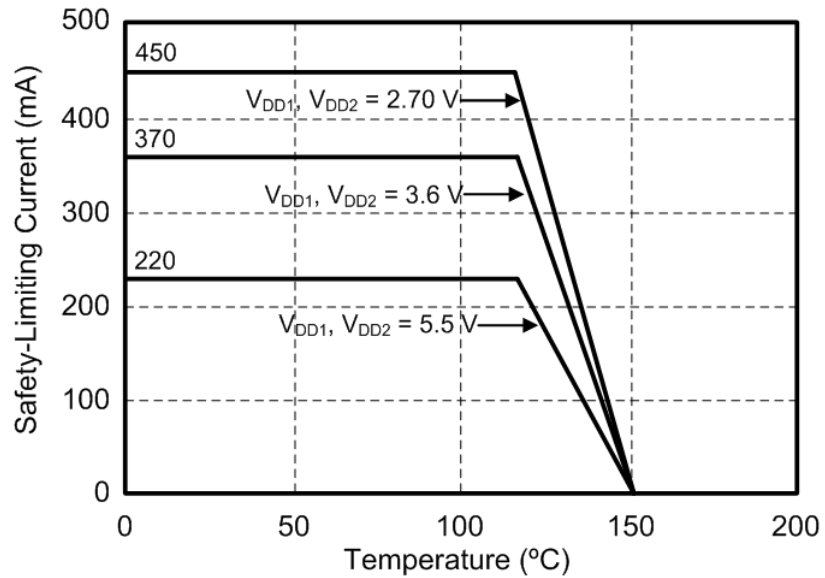
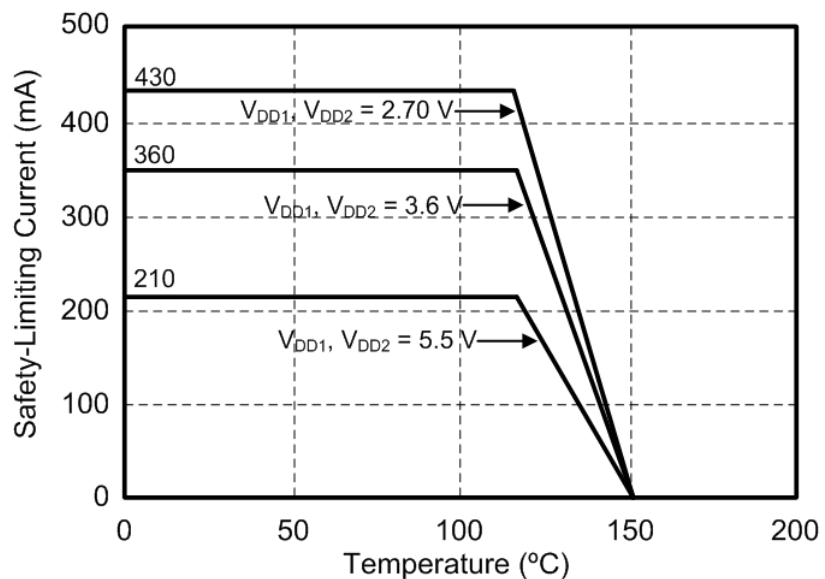

Figure 4.4. (WB SOIC-16) Thermal Derating Curve, Dependence of Safety Limiting Values with Case Temperature per DIN EN 60747-5-5/VDE 0884-10, as Applies
Figure 4.5. (NB SOIC-16) Thermal Derating Curve, Dependence of Safety Limiting Values with Case Temperature per DIN EN 60747-5-5/VDE 0884-10, as Applies
1. Maximum value allowed in the event of a failure; also see the thermal derating curve in [Figure 4.4 \(WB SOIC-16\) Thermal Derating Curve, Dependence of Safety Limiting Values with Case Temperature per DIN EN 60747-5-5/VDE 0884-10, as Applies on page 23](#) and [Figure 4.5 \(NB SOIC-16\) Thermal Derating Curve, Dependence of Safety Limiting Values with Case Temperature per DIN EN 60747-5-5/VDE 0884-10, as Applies on page 23](#).